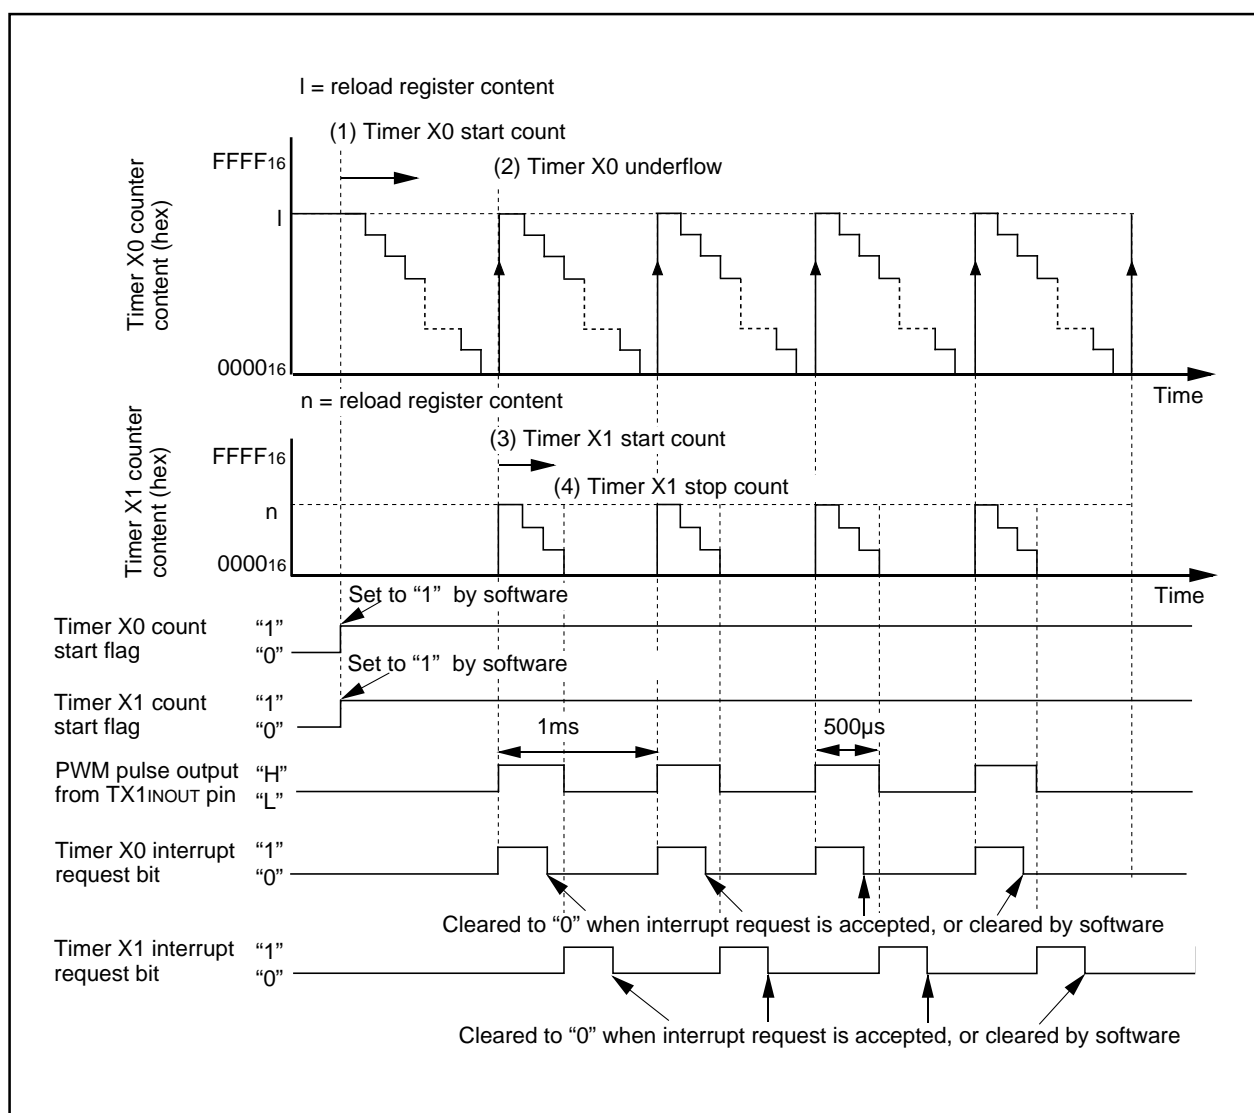

Figure 3.2.1. Operation timing of variable-period variable-duty PWM output
**Overview** In this process, Timer X0 and A1 are used to generate variable-period, variable-duty PWM output. Figure 3.2.1 shows the operation timing, Figure 3.2.2 shows the connection diagram, and Figures 3.2.3 and 3.2.4 show the set-up procedure.